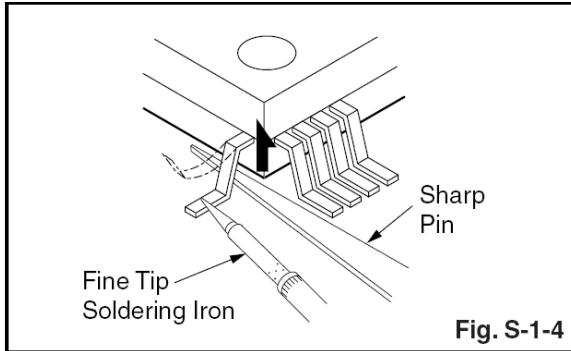

Fig. S-1-4
2. Lift each lead of the flat pack-IC upward one by one, using a sharp pin or wire to which solder will not adhere (iron wire). When heating the pins, use a fine tip soldering iron or a hot air desoldering machine. (Fig. S-1-4)